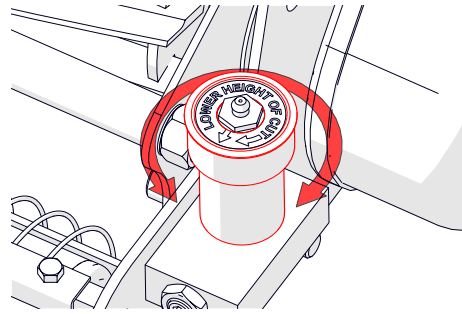

Fig. 9D - Adjust the cut height adjuster.
6. Manually turn the cut height adjuster to alter the height (Fig.9D). It adjusts in quarter turn 'clicks' of 0.25mm increments. Therefore a full rotation of the adjuster raises or lowers by 1mm.